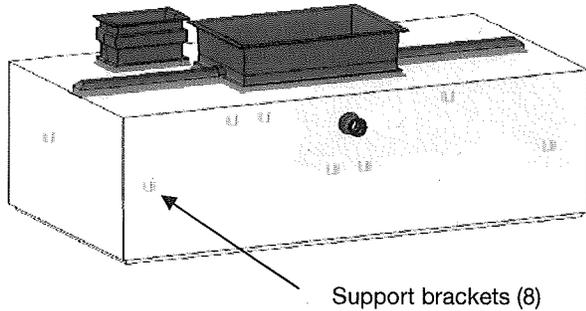

Figure 21
2.8 Fix the support brackets in the tank top part as described on Figure 21 and 22.